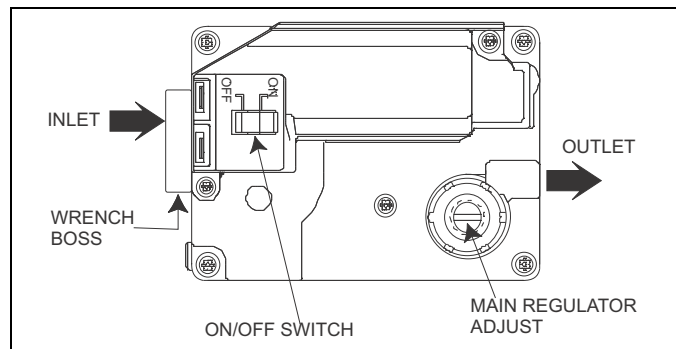

FIGURE 2: 36 E Gas Valve
2. Remove 1/8" test plug on inlet side of gas valve and install tubing adapter. See Figure 2.